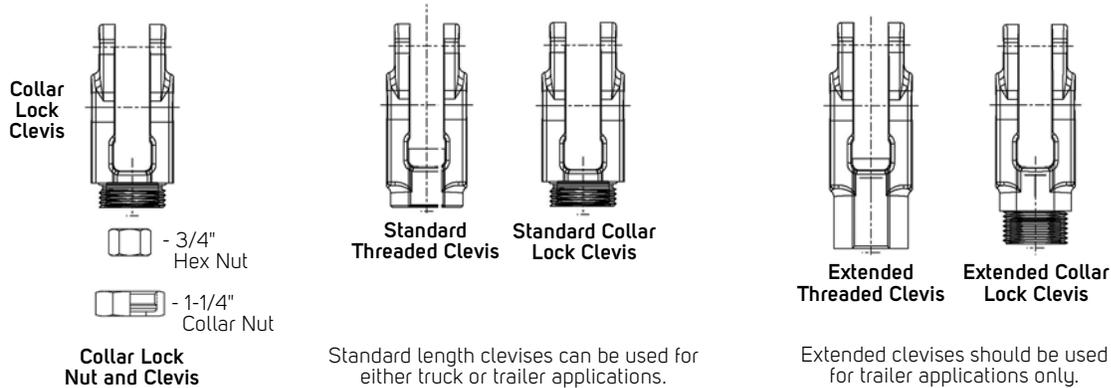

Figure 1 - Clevis Types
4. Refer to Figure 1 and determine if your Gunite slack adjusters are equipped with the threaded clevis or the collar lock clevis (extended or standard length). Refer to the correct installation procedure for the style of clevis used on your Gunite slack adjusters.